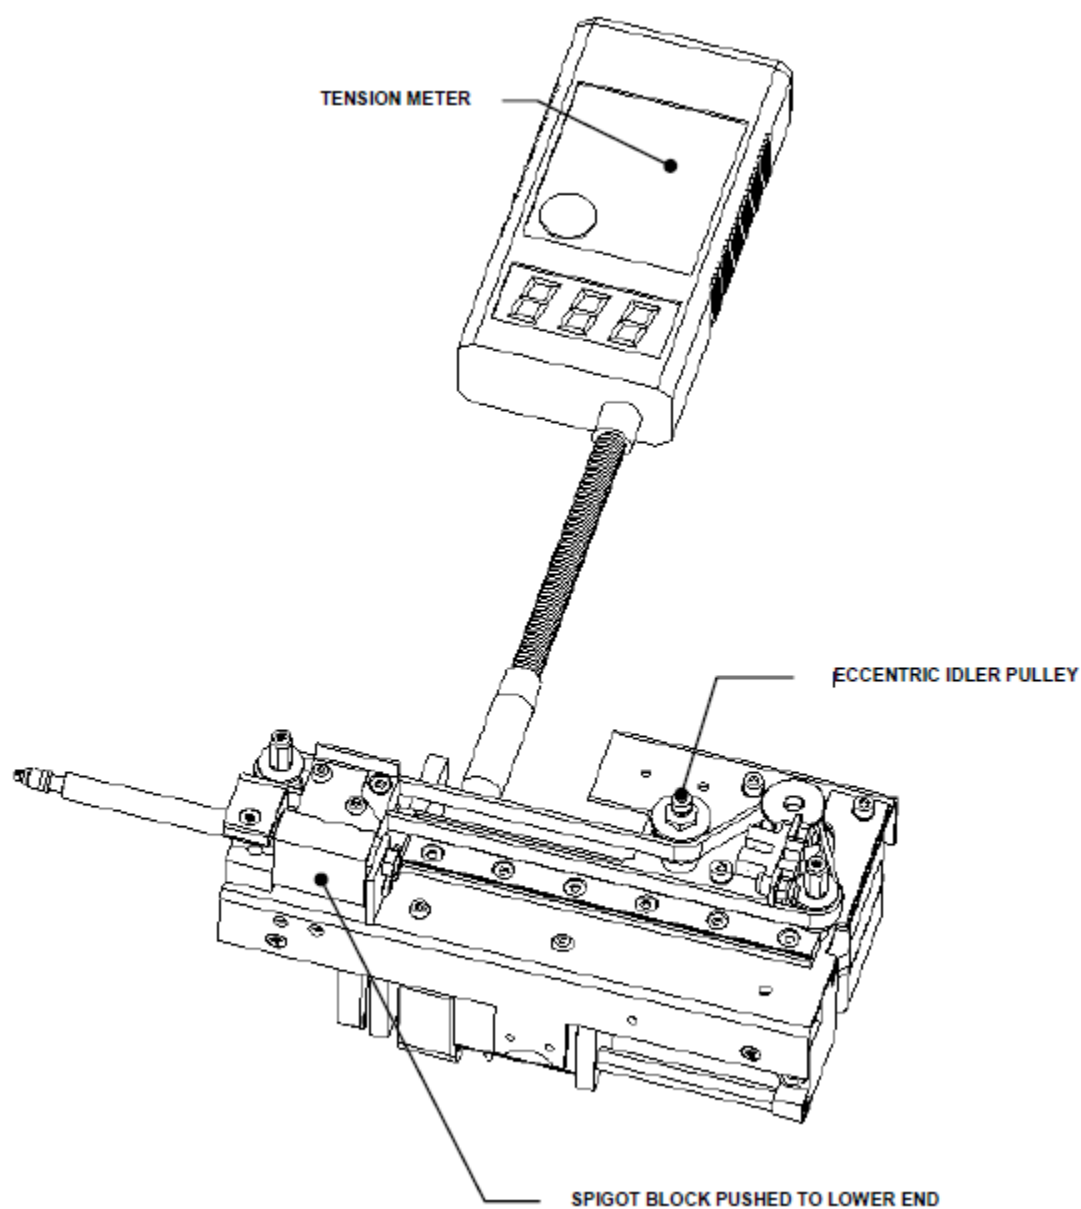

Figure U-33: Tensioning the Timing Belt
3. Push the Spigot Block to the lower end of the Sample Pipettor Z Drive as shown in Figure U-33.